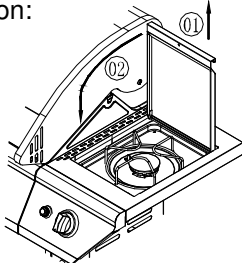

Fig.13B
- (d) Using (2) Truss head screws (AA), attach side burner shelf (N & D1) to Firebox from inside the firebox. Insert (1) Truss head screws (CC) to attach the side burner shelf front panel to the control panel. See Fig.13B. Fully tighten the two loosened screws to secure shelf to firebox.